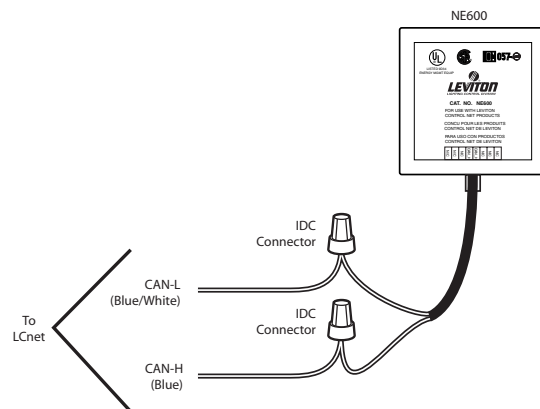

Figure 2-10:
- 1a. **USING IDC CONNECTORS:** Connect per wiring diagram (Figure 2-10) as follows: Insert the wires from the pluggable wiring harness into one side of the IDC connector, and the wires from the LCnet into the other end of the connector. Using a set of pliers, crimp the connector. Connect the RJ45 connector into the Terminator Block.